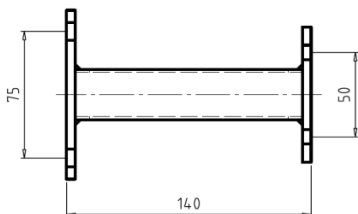
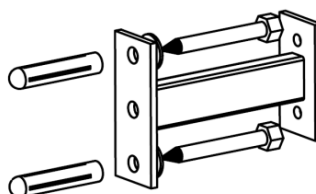

Figure 9:
Figure 10: Assembling
Start by attaching the spacers ①. Drill two holes with a diameter of 14 mm into the wall, one above the other and 75 mm apart (see figure 9). Then insert the wall plugs ④ into the drilled holes and attach the spacers using the screws ② and washers ③ supplied (see figure 10).